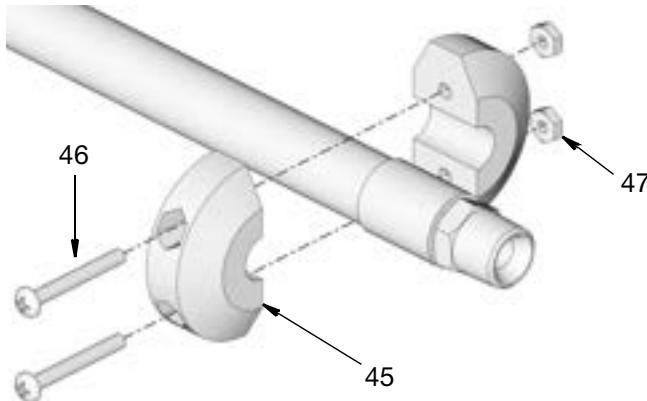

FIG. 7
- Install the ball stop (45) near the end of the hose using screws (46) and nuts (47). Tighten nuts until the outside edges of the stop contact each other (FIG. 7).